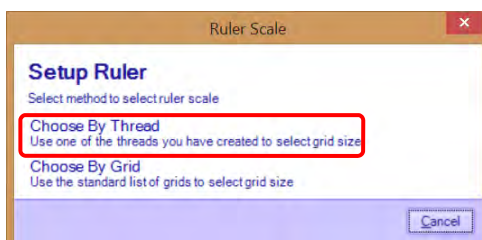

Fig. 3
3. Click on CHOOSE BY THREAD (Fig. 3)